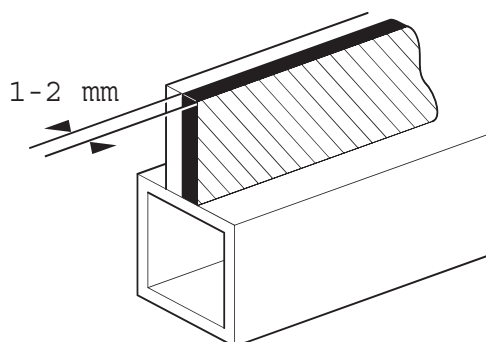

Fig 8.
- 5 If necessary, trim off the remaining old sealant to leave approximately 1 to 2 mm on the upright face of the cab frame aperture. → Fig 8. \(B-44\)